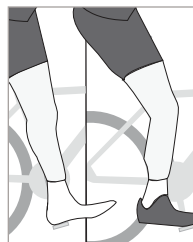

FIGURE 3.7
3. With the crank arms parallel to the seat tube, put your heel on the bottom pedal. Extend the seatpost until your extended leg is straight (Figure 3.7).